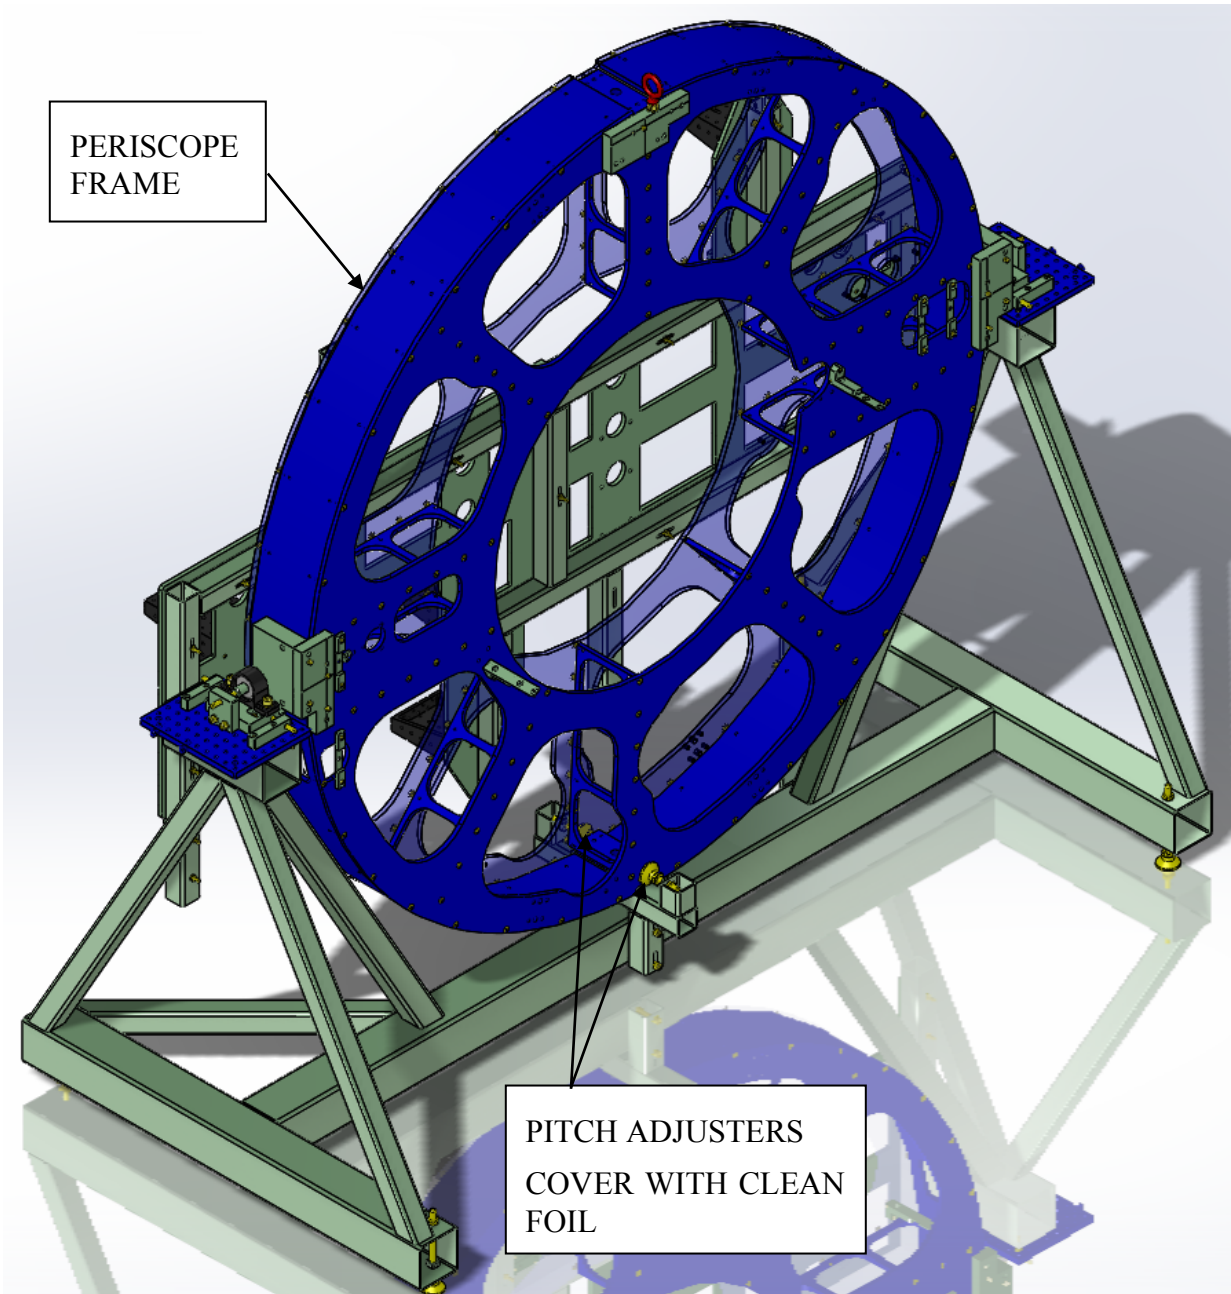

Figure 5 Periscope Frame mounted on East Cradle.
8. As a team, carefully manipulate the Periscope Frame into position on the Cradle using the hoist to set it down with the bearings and slide blocks in position on the breadboard dowel pins. See **Figures 5 & 6**.